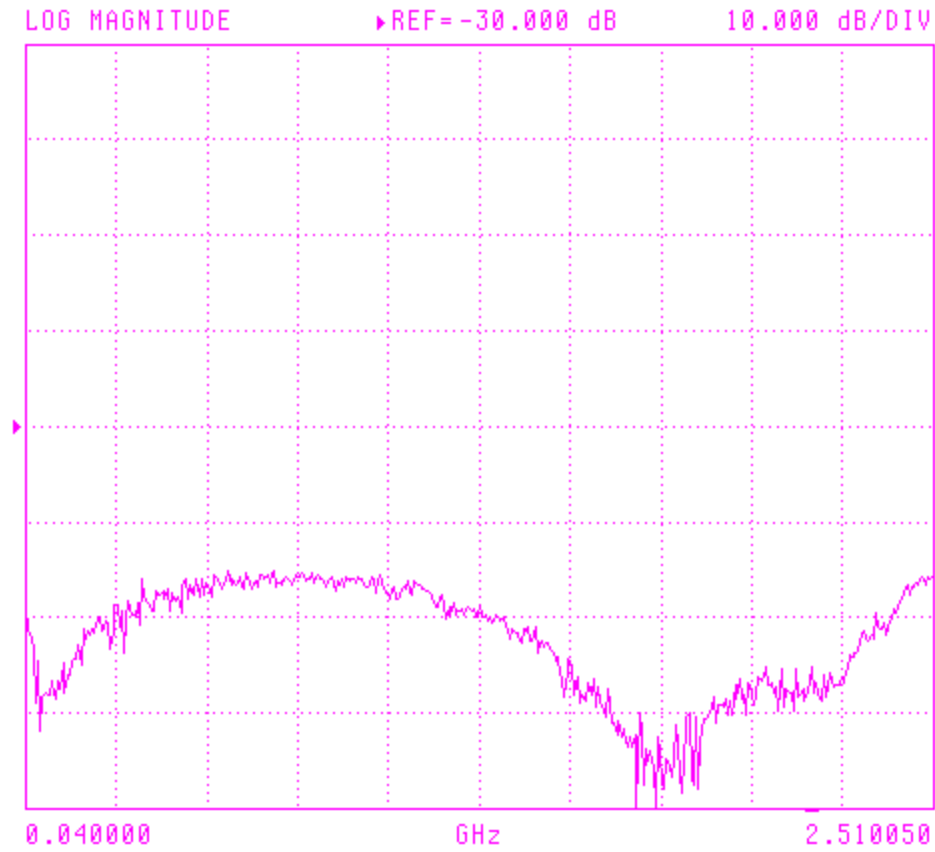

Figure 5
- Figure 5 : Isolation Measurement / Active to Inactive Port.
Isolation NC to NO	Fig. 5